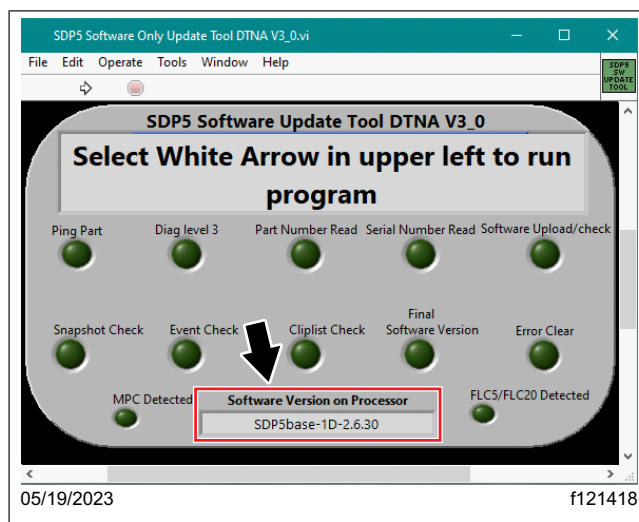

Fig. 31, Updated Software Version
17. The 'Software Version on Processor' panel now displays 'SDP5base-1D-2.6.30.' See Fig. 31.